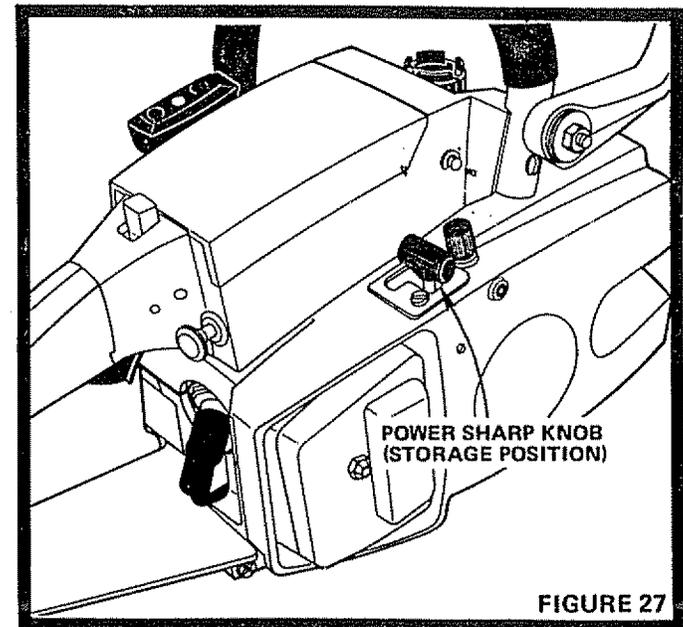

FIGURE 27
7. Place Power Sharp Knob in storage position (Fig. 27). Retension Chain for cutting (page 4).